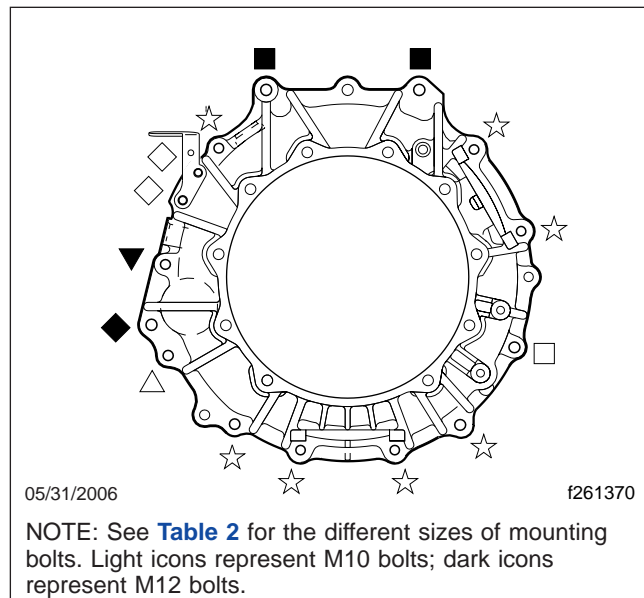

Fig. 11, Transmission Mounting Bolt Locations
4. Install the top four transmission mounting bolts. Tighten all M10 bolts 35 lbf-ft (47 N-m) and all M12 bolts 60 lbf-ft (82 N-m). See Fig. 11.